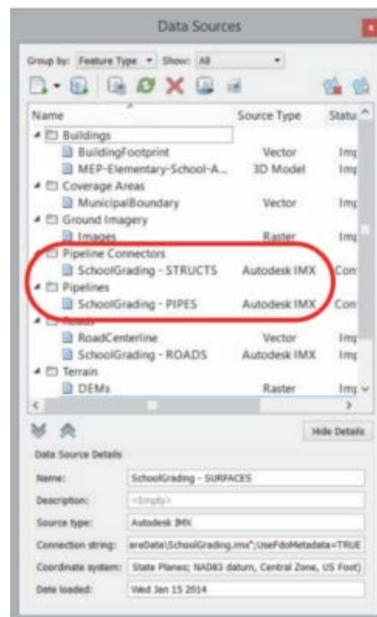

Figure 38
- Pipe Networks:** Pipes from the AutoCAD Civil 3D software become Pipes in the Autodesk InfraWorks software, while structures become Pipe Connectors. Pipes and Pipe Connectors display separately when a pipe network is imported from the AutoCAD Civil 3D software, as shown in Figure 38. When configuring the pipe networks, set the style in the Common tab, in the Data Configuration dialog box.